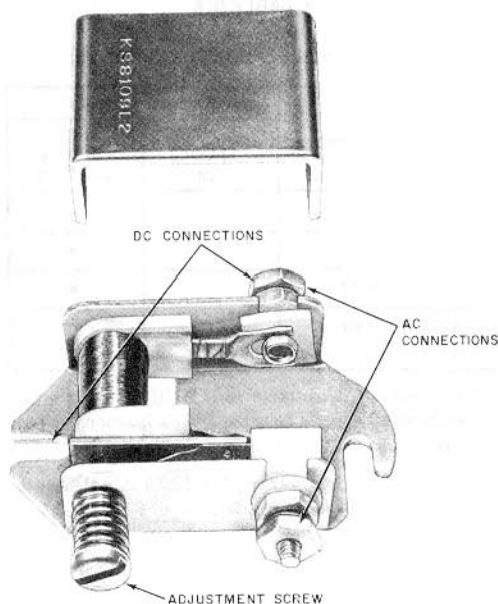

Fig. 6—KS-8109L2 Buzzer
2.10 The KS-8108L2, KS-8109L2, and KS-8110L2 buzzers (Fig. 6) replace the List 1 buzzers. They have a single coil only and may be used for ac or dc operation (Fig. 24). With dc operation, the Lists 1 and 2 buzzers are interchangeable.
2.11 The volume on KS-8108, KS-8109, and KS-8110 type buzzers can be set with the adjusting screw (Fig. 6).